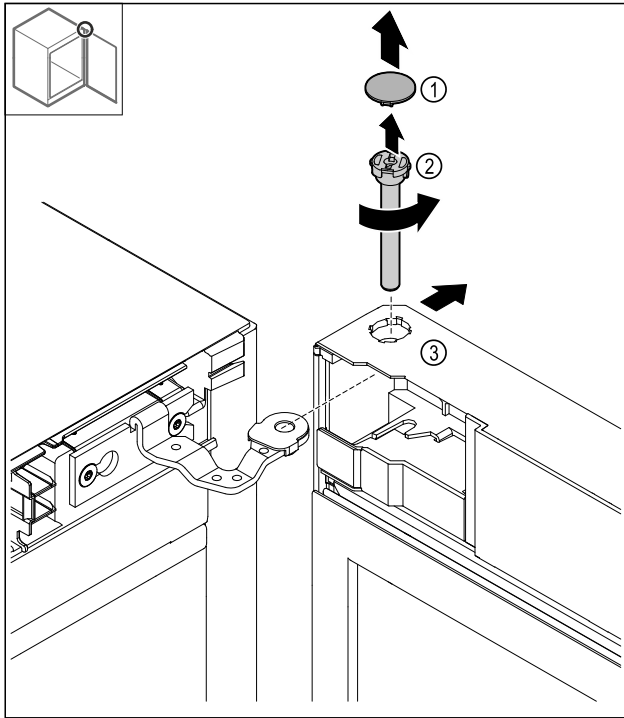

Fig. 9
- ▶ Removing the cover Fig. 9 (1).
- ▶ Loosen the bolt Fig. 9 (2) anti-clockwise and pull it out.
- ▶ Tilt the door Fig. 9 (3) slightly.